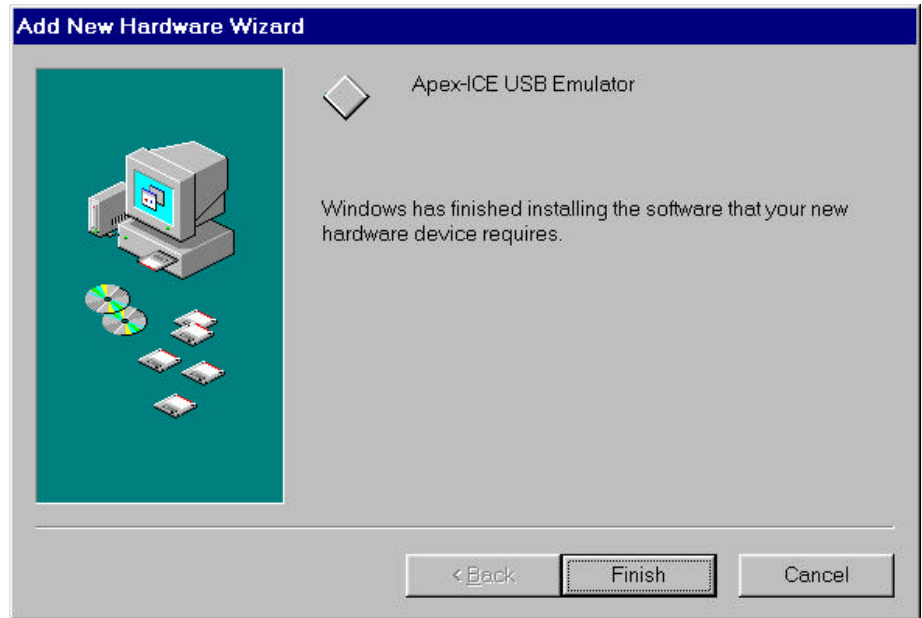

Figure 5. Add New Hardware Wizard
6. Click Finish and the driver installation is completed as shown in figure 5. Click Next